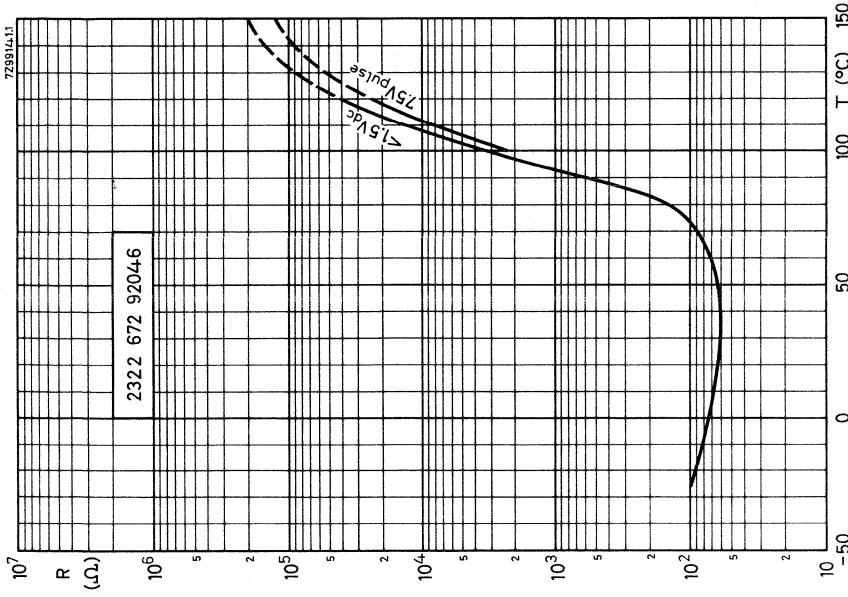

Fig. 3.
Fig. 3 shows the PTC thermistors V/I characteristic (ABD) superimposed on the load-line (CD). The circuit will be designed such that, under normal conditions, the
1. Overcurrent (Fig. 3), where the load current increases due to a decrease in load resistance, for example when a motor winding goes short-circuit.